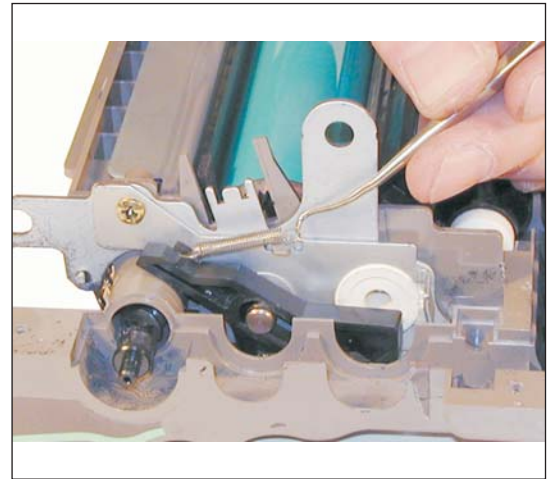

Figure 40
30) Install the small spring. See Figure 40